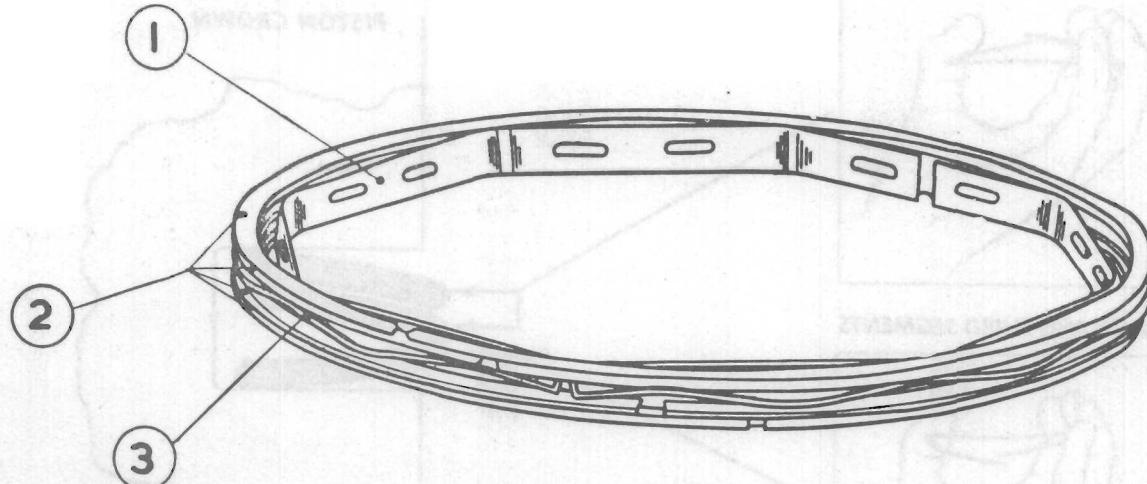

Fig. F.8.
The spring loaded scraper ring comprises one internal expander ring (1), two rail rings (2) each side of the spiral ring (3). See Fig. F.8. See Fig. F.8.
This spring loaded scraper ring is an alternative to that shown in Fig. F.8 and consists of 4 flat segments, one cupped segment and a spacer.